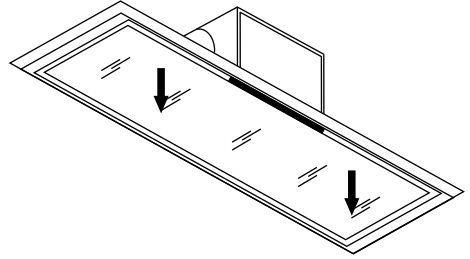

Fig 3
1. Pull down at each side of the glass cover to hang down (Fig 3).